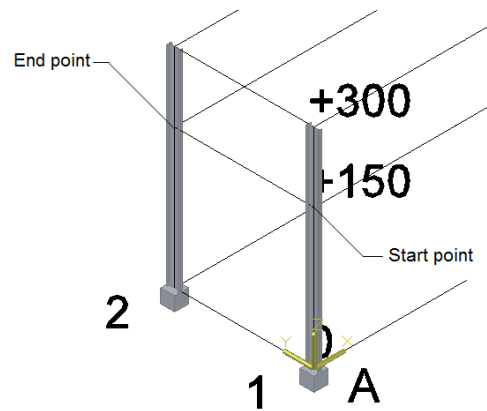
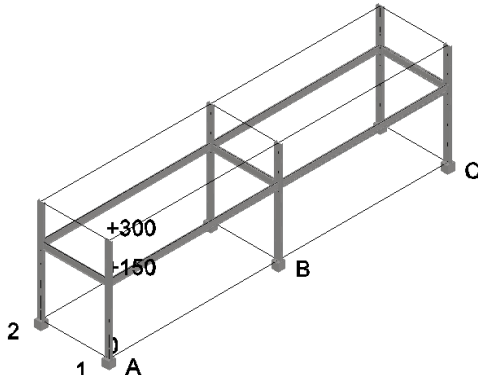

Figure 3-32 The start point and end point of the beam
Figure 3-33 Model after creating the lower level
8. Invoke the **Member** tool; you are prompted to select the start point. Select the start point and the end point, as shown in Figure 3-32; a beam is created between the two selected points and a rubber-band line is displayed between the cursor and the specified point. Also, you are prompted to select the end point of a new member. Similarly, create rest of the beams, as shown in Figure 3-33.